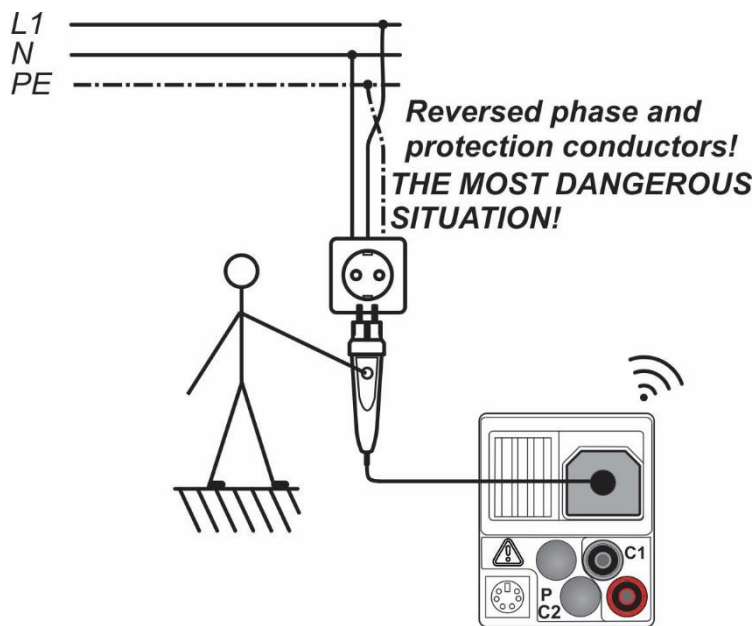
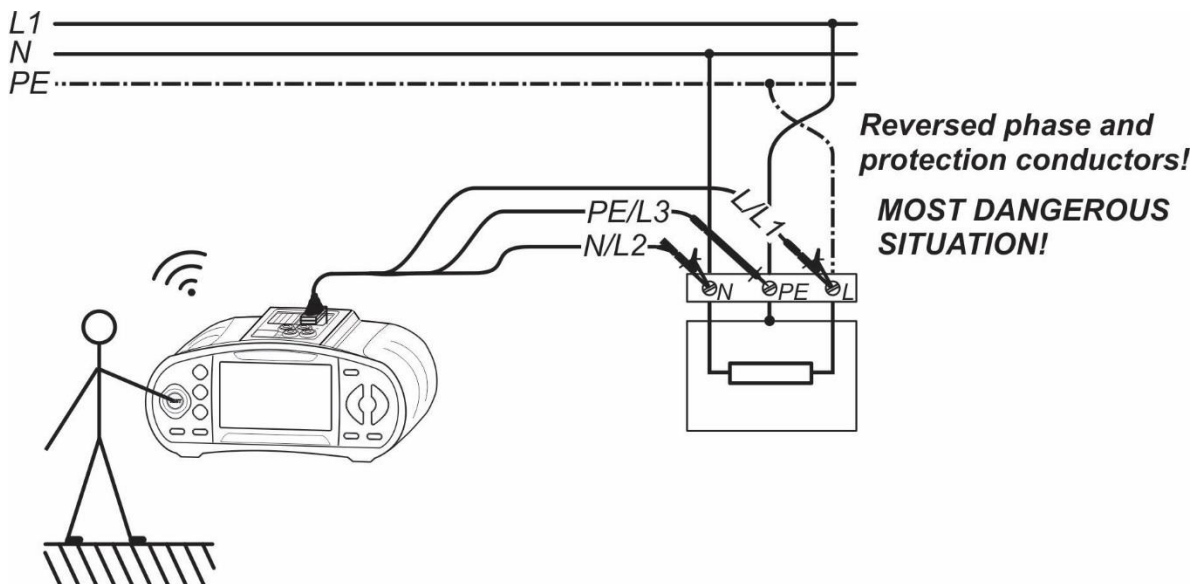

Figure 5.43: Reversed L and PE conductors (plug commander)
Figure 5.44: Reversed L and PE conductors (application of 3-wire test lead)
- ❑ **Connect** test leads to the item to be tested (see *Figure 5.43* and *Figure 5.44*).